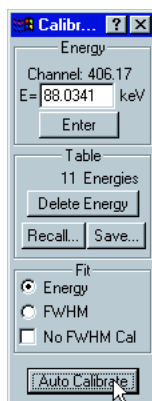
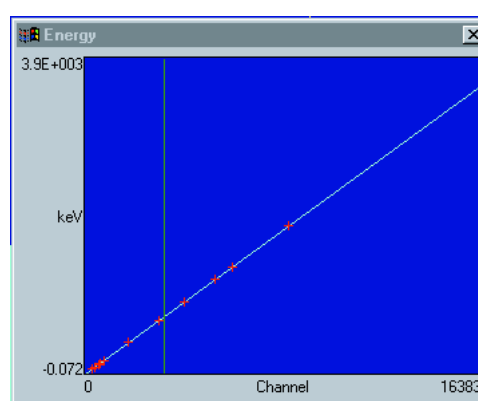

Fig. 18A
Fig. 18B
1.17 Choose **Auto Calibrate** in the **Calibr** window to calibrate energy and FWHM (Fig. 18A). The energy calibration table and a graphical representation of the fit will appear. The energy vs. channel fit should appear linear (Fig. 18B). If not, return to step 1.14 and carefully compare the list of nuclides in the library to the list of nuclides on your standard certificate — the energies must match. Another way to check the energy calibration is to inspect the Delta values in the Energy Table (Fig. 18C). These values are a measure of how well the calibration fits the actual data points. For a well-shielded system, the Delta values for a good energy calibration should be small — typically less than 1%.